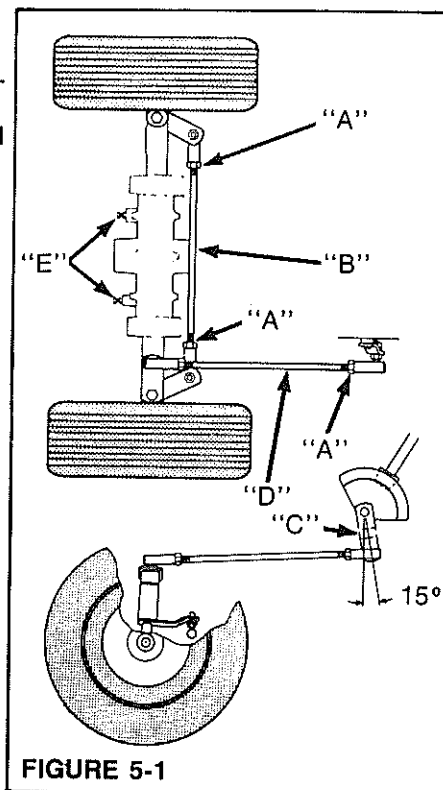
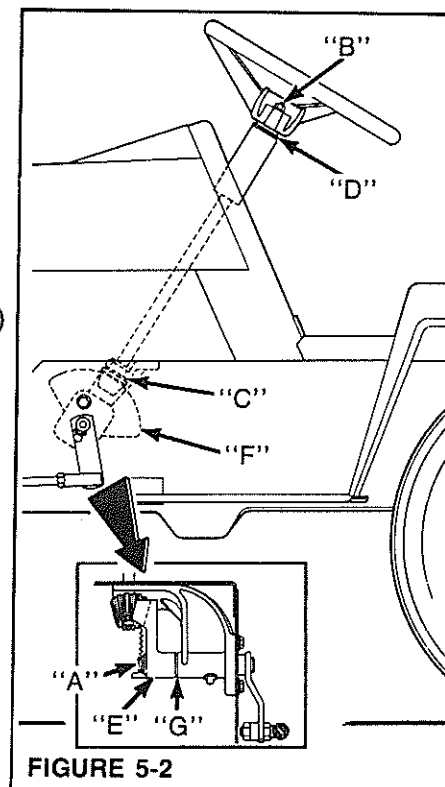

FIGURE 5-1
FIGURE 5-2
An adjustment has been provided on the front axle to cut down on excessive engine vibration. By adjusting screws (E) Figure 5-1, pressure can be applied to the front axle. Raise front of tractor and adjust as required. Front axle should pivot with a small amount of drag.
1. Remove retaining ring (A) Figure 5-2 and slide the steering arm shaft out.
2. Disassemble the steering wheel by removing hex nut (B) and washer.
**NOTE:** It may be necessary to tap the steering shaft down until flange bushing (C) is pushed out of the steering support casting.
1. With flange bushing (C) slid on to the pinion shaft assembly, route it through the casting and through the steering column bearing. Slide on any needed shims at point (D) and secure the steering wheel with the nut and washer removed earlier.
2. With the steering wheel emblem right side up position steering gear (E) in steering casting.
3. With the steering arm pointed about 15° to the rear, (See Figure 5-1), slide it through the steering casting, any shims removed earlier and steering gear (F).
4. If for some reason the two gears do not have maximum engagement, shim at point (G) and secure with retaining ring removed earlier.